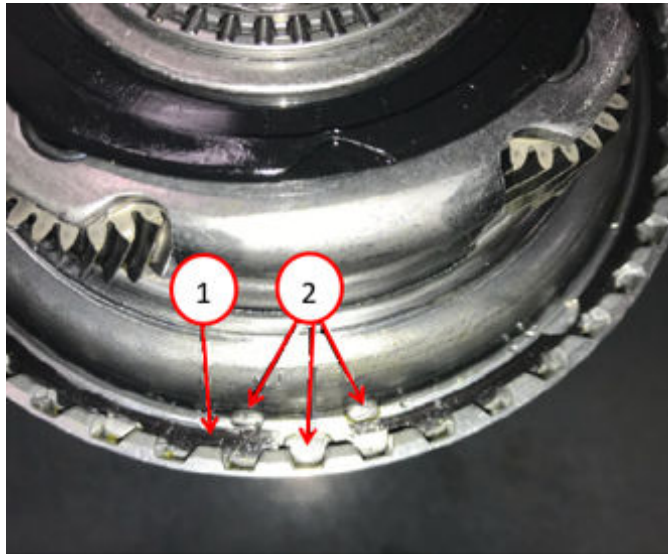

Fig. 22
33. Position the Rings Support on the P4 annulus drum assembly to protect the drum Fig. 22.